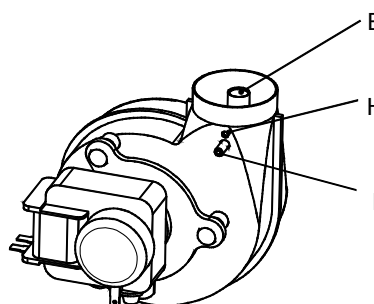

Figure 7
- 3) Remove the venturi device by unscrewing the screw H (Figure 7).